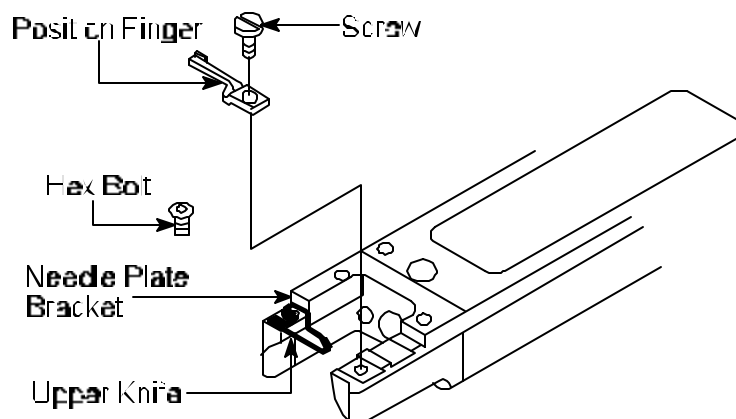

Figure 4
27. **Upper Knife** tip rests on Position Finger and back rests flush against Needle Plate Bracket. (**MK 4** trimmers only apply) See *Figure 4*.